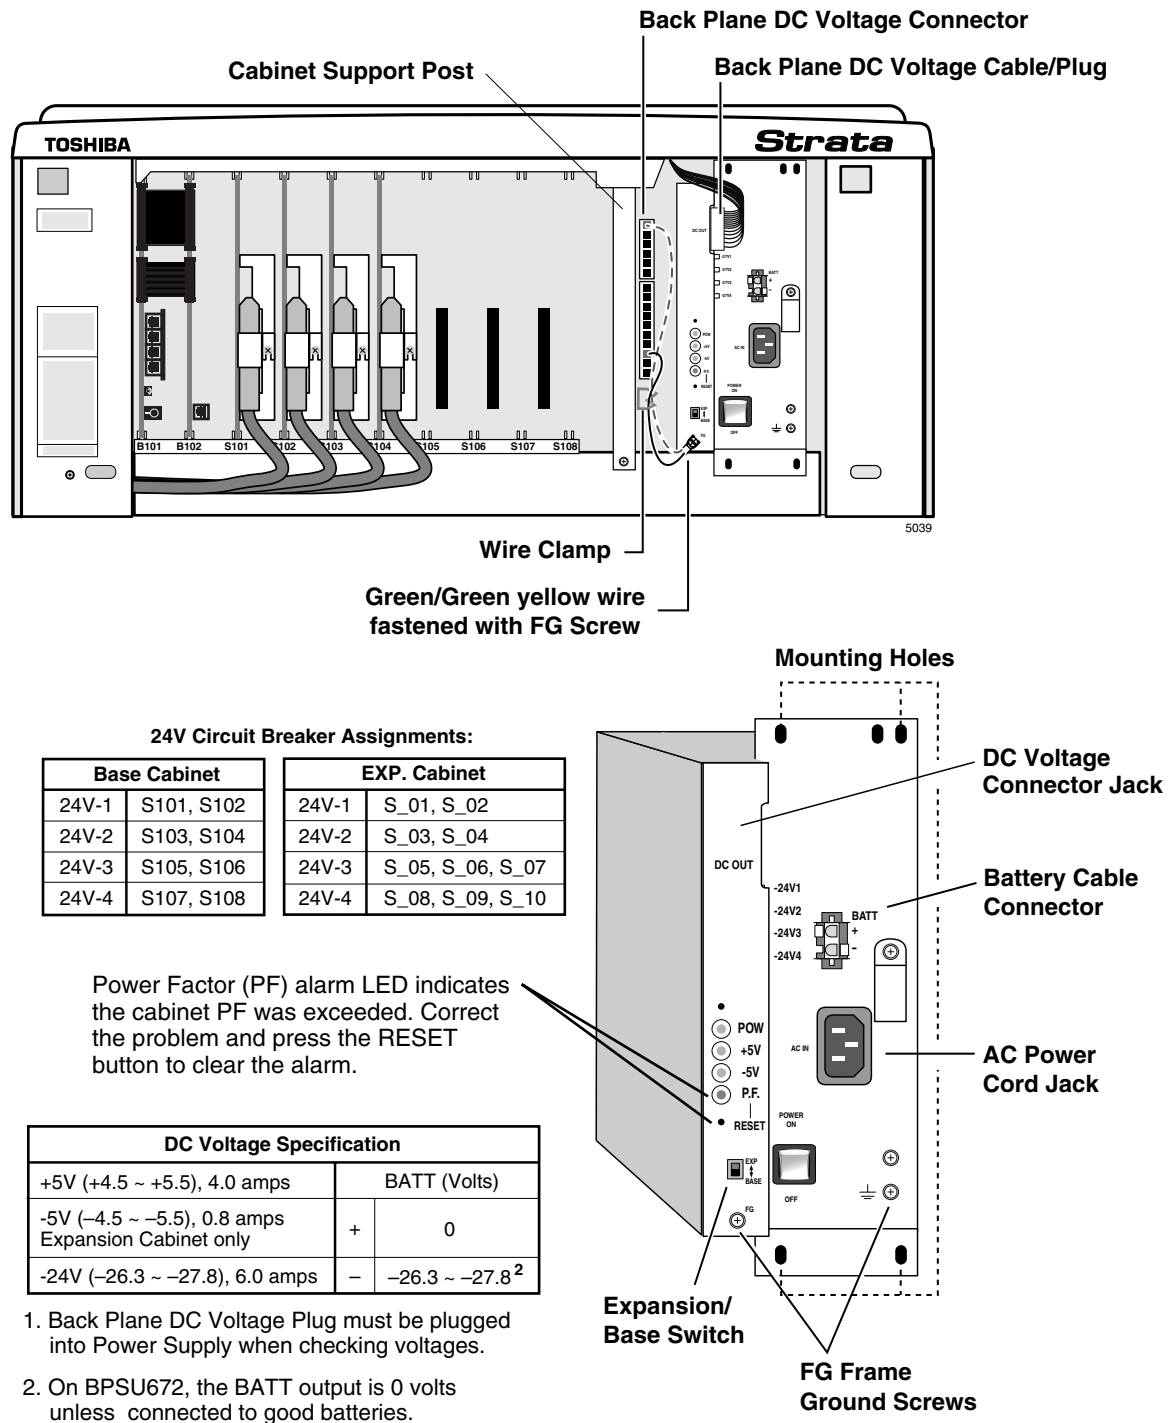

Figure 3-3 Power Supply Installation
7. If the cabinet is the Base Unit, a standalone Remote Expansion Cabinet, or the first in a stack of Remote Expansion Cabinets. Set the Exp/Base switch to the “Base” position (see Figure 3-3).
9. See Figure 3-3 to ensure that the power supply is properly installed.
The BPSU672A provides four -24v circuit breakers as shown in Figure 3-3. If a low resistance between -24 volts and ground exists the circuit breaker will trip. Usually the front panel DC green LED indicator will turn off but not always. Also if AC power is recycled the DC LED indicator may turn back on – even if the -24 volt circuit breaker is tripped.
Circuit Breaker Location and Slot Assignments (see Figure 3-3)